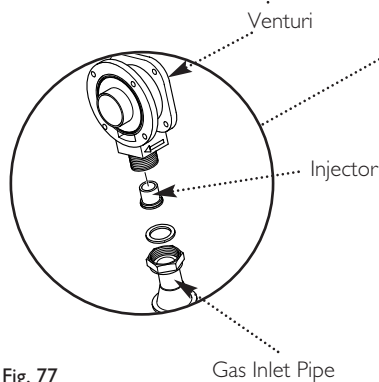

Fig. 77
9. Undo the nut on the gas inlet pipe to the venturi (Fig. 77) and pull the sensing pipe off the fan.